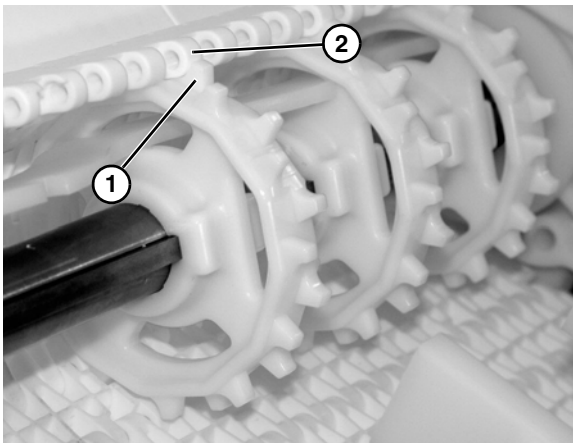

Figure 21
6. Wrap the belt around the drive end of the conveyor, making sure the sprocket teeth have engaged the belt, with concave teeth (**Figure 21, item 1**) mating with rounded section (**Figure 21, item 2**) of belt.